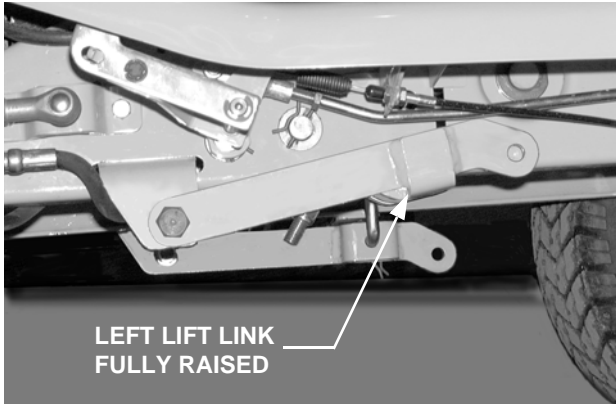

Figure 5
After locking the left lift link as described in **Section I** (step B-2), start the tractor and use the hydraulic lift to fully raise the left lift link (See Figure 5). Stop engine.
- Use the hydraulic lift to fully raise the LH and RH lift links (See Figure 5). Stop the engine.